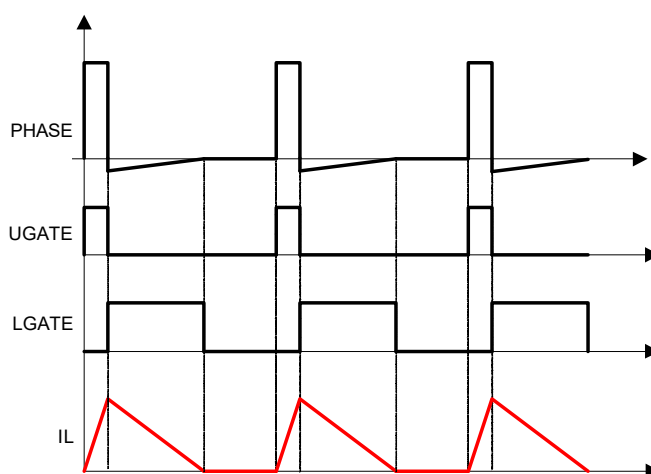

Figure 35. Diode Emulation
The R3 modulator can operate in Diode Emulation (DE) mode to increase light-load efficiency. In DE mode, the low-side MOSFET conducts when the current is flowing from source-to-drain and does not allow reverse current, which emulates a diode. As shown in Figure 35, when LGATE is on, the low-side MOSFET carries current and creates negative voltage on the phase node because of the voltage drop across the ON-resistance. The IC monitors the current by monitoring the phase node voltage. It turns off LGATE when the phase node voltage reaches zero to prevent the inductor current from reversing the direction and creating unnecessary power loss.
If the load current is light enough, as Figure 35 shows, the inductor current reaches and stays at zero before the next phase node pulse, and the regulator is in Discontinuous Conduction Mode (DCM). If the load current is heavy enough, the inductor current never reaches 0A, and the regulator is in Continuous Conduction Mode (CCM) although the controller is in DE mode.